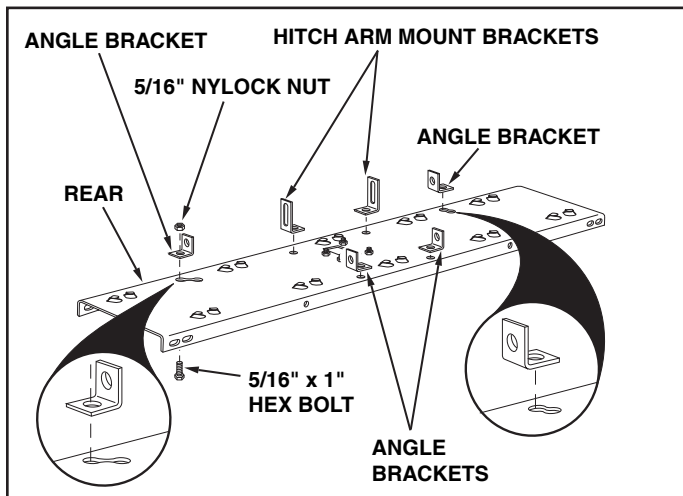

FIGURE 2
2. Turn the tine shield upside down. See figure 2.
3. Assemble two (tall) hitch arm mount brackets and two (short) angle brackets to the bottom of the tine shield at the rear. Use four 5/16" x 1" hex bolts and 5/16" nylock nuts. **Do not tighten yet.** Position the brackets as shown in figure 2.
4. Assemble two angle brackets to the bottom of the tine shield at the front. Use two 5/16" x 1" hex bolts and 5/16" nylock nuts. **Do not tighten yet.** Position the brackets as shown in figure 2.